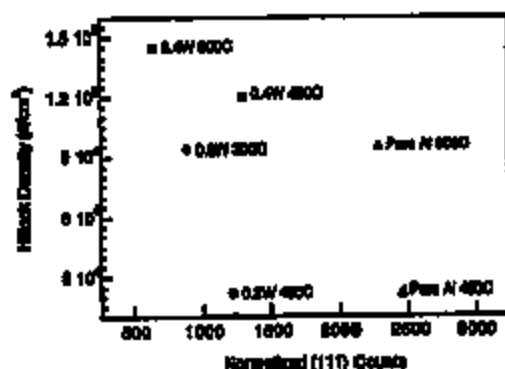

Fig. 8. Hillock density plotted as a function of (111) texture for pure Al, 0.2 W, and 0.4 W films. Films with greater (111) texture formed fewer hillocks.
Film texture appeared to have the most significant effect on the hillock density, under the conditions studied in this work. Review of the pole figure and hillock density data revealed a correlation between increasing (111) film texture and decreasing hillock density (see Fig. 8). AlCu films had virtually no hillocks and the highest (111) texture. Additionally, for all film compositions, increasing the deposition temperature resulted in an increase in (111) texture and a decrease in hillock density (Fig. 7 and Fig. 8). Pure Al films were more strongly textured in (111) than 0.4 W films deposited at the same temperature, and the hillock densities in the